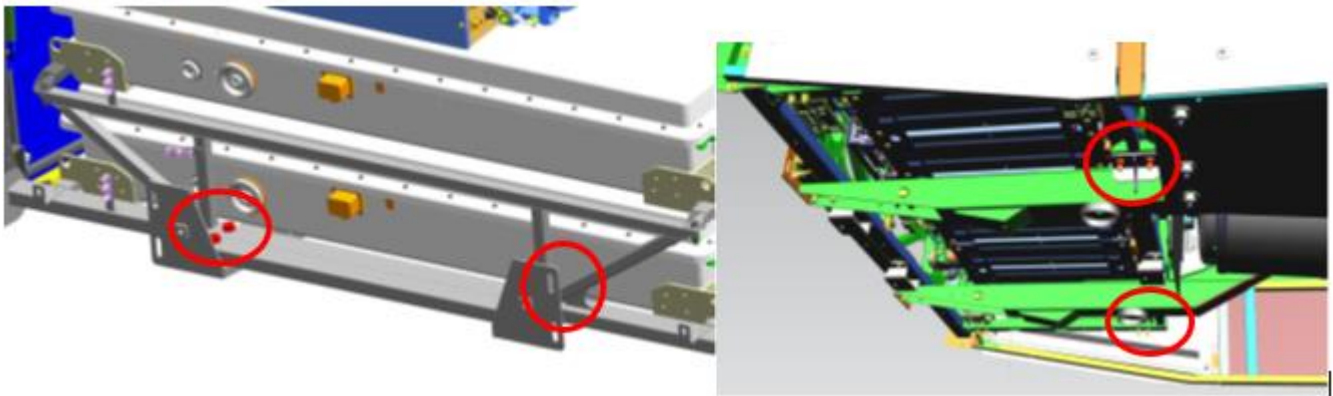

Figure 15: ESS Battery pack assembly securement hardware reference.
25. Using a forklift, reinstall the ESS battery rack assembly inside the vehicle and align the mounting holes to the vehicle structure. Secure the ESS battery rack assembly using existing hardware. Torque the 1/2" hardware to 69 ft-lbs. (94 Nm). Torque 3/4" hardware to 245 ft-lbs. (339 Nm). Apply yellow paint torque marks. Reference figure 15.